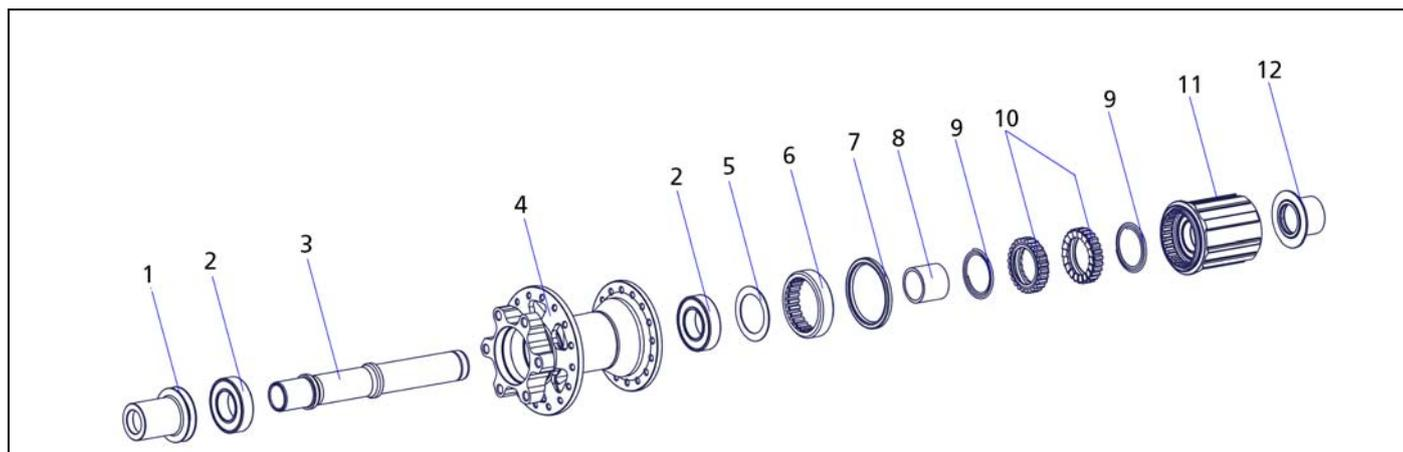

Figure 4-1: Overview: Ratchet System
1. Clamp the left end cap (fig. 4-1/1) into a vise.
3. Clamp the left end cap (fig. 4-1/13) into a vise.
5. Pull the rotor (fig. 4-1/12) off the hub.
6. Take the springs (fig. 4-1/10), the star ratchet (fig. 4-1/11) and the spacer (fig. 4-1/9) off the hub.
2. Put on the spacer (fig. 4-1/9) and the first spring (fig. 4-1/10).
3. Put on both star ratchets (fig. 4-1/11) and the second spring (fig. 4-1/10).
3. Grease both bearings and the contact surface of the end caps (fig. 4-1/1/13).
4. Put both end caps (fig. 4-1/1/13) onto the hub by hand.